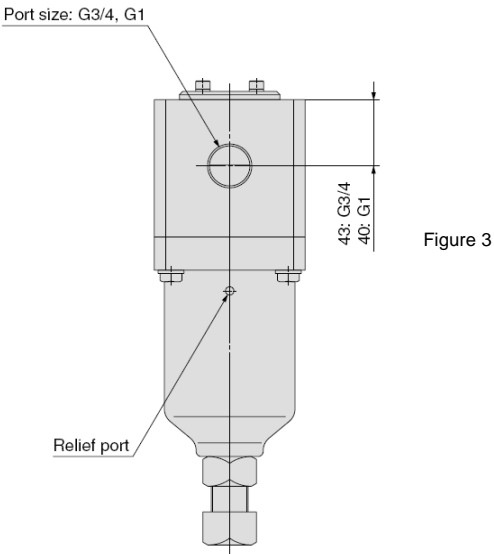

Figure 3
- Air will be released from the relief/vent ports when the ‘OUT’ port pressure is above the set point. Ensure that the air jet, volume of air and noise does not cause a hazard. See Figure 3.
- The outlet pressure is set by rotating the adjusting bolt, at the bottom of the regulator. See Figure 3. Loosen the locknut first.